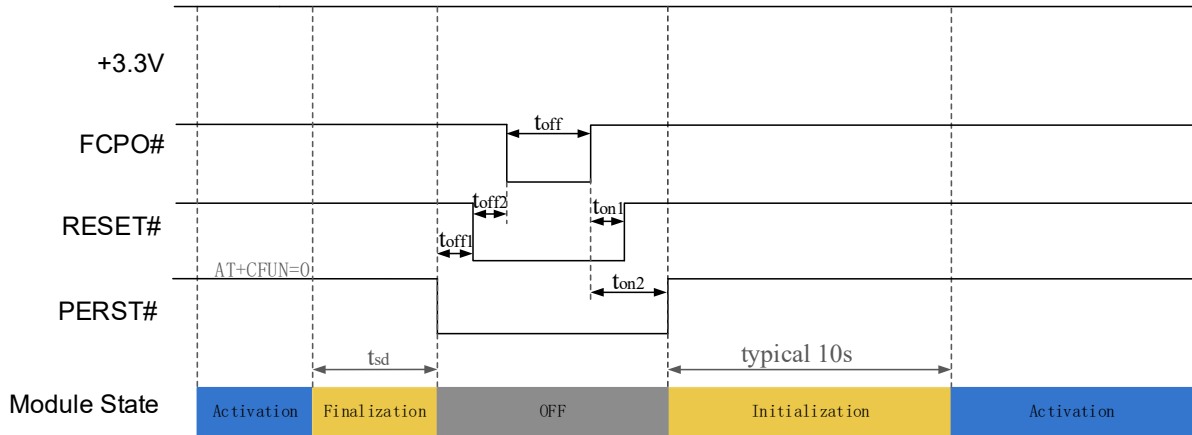

Figure 3-9 Reset timing 2nd
- Reset timing 2nd in Figure 3-9, PMU of module internal will be off in reset sequence (including whole power off and power on sequence,  $t_{sd}$  can refer section 3.3.2), recommend using in system warm boot.